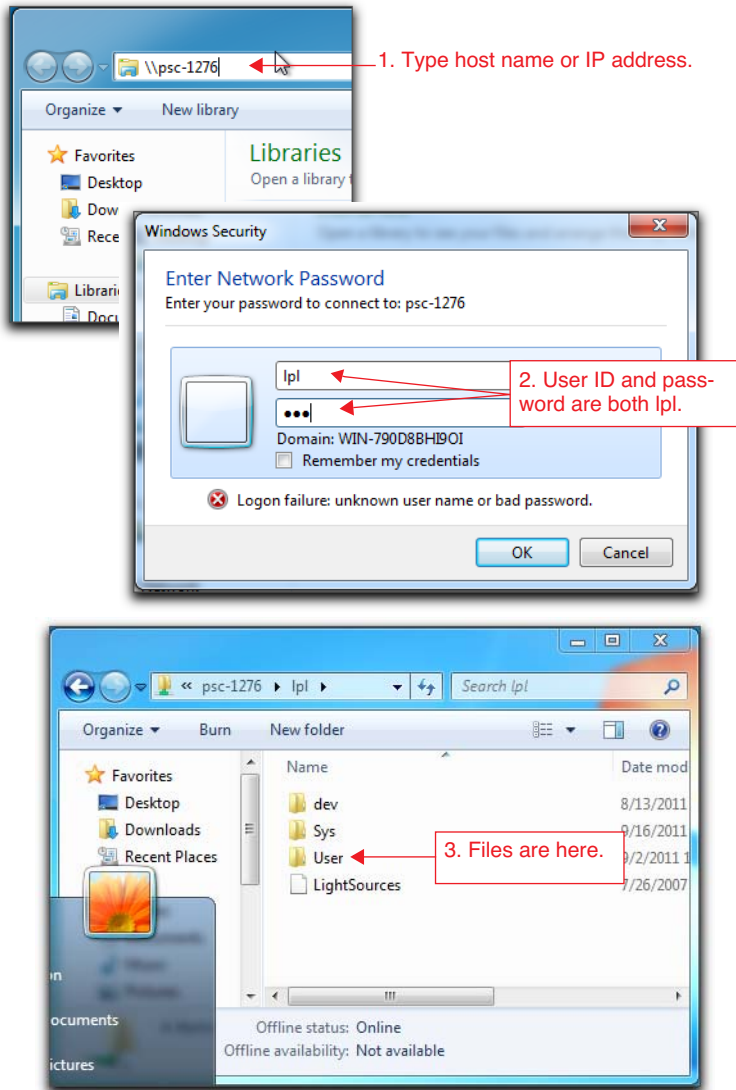
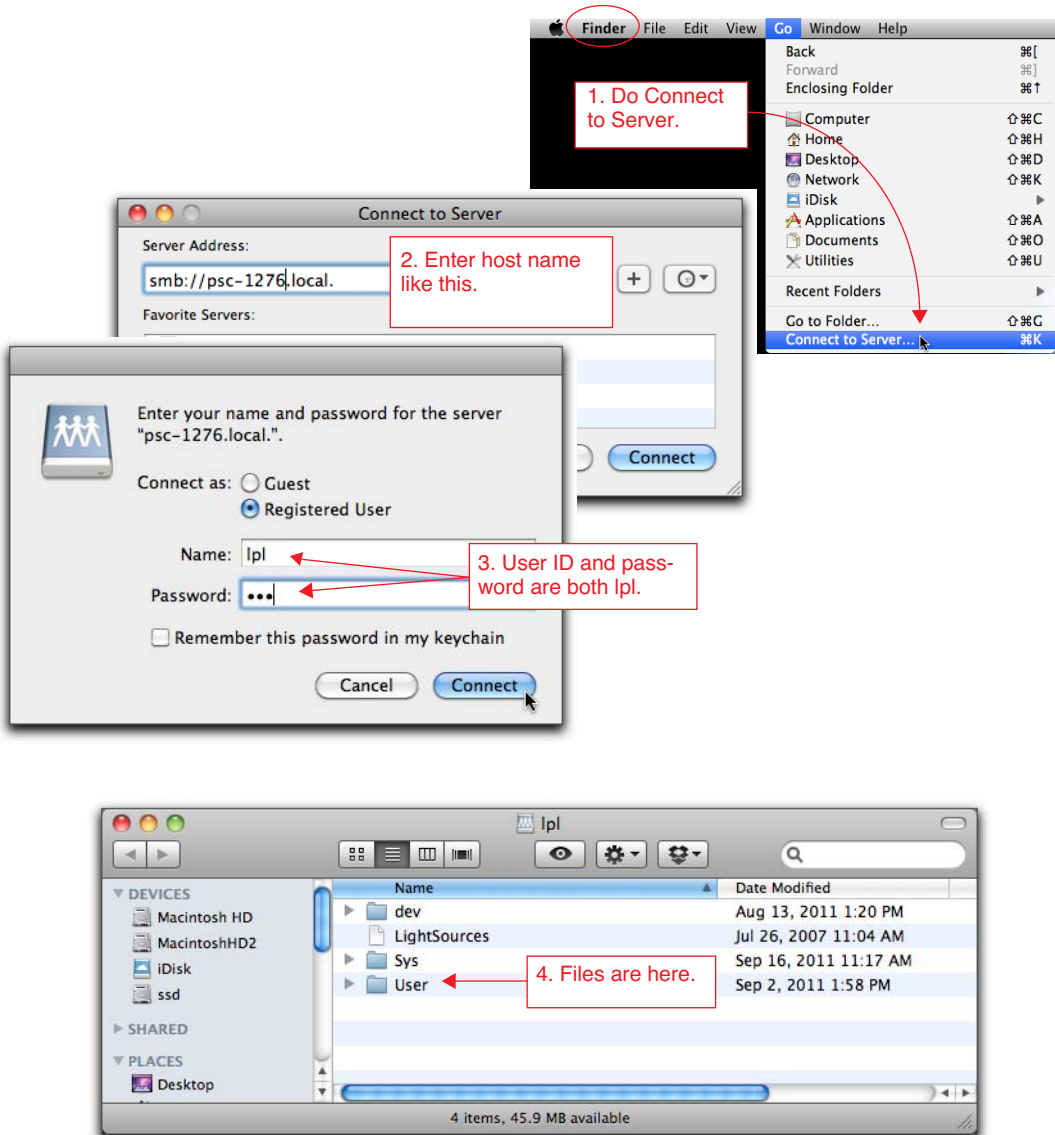

Figure 3-95. Connecting to the LI-6400XT file system using Windows.
Figure 3-96. Connecting to the LI-6400XT file system using Finder.
b) Connect the LI-6400XT file system to your computer using Windows Explorer (Figure 3-95) or Max OS X Finder (Figure 3-96).